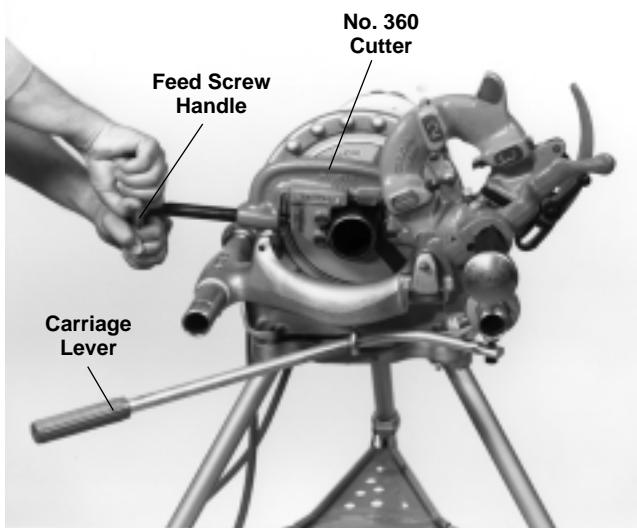

Figure 9 – Cutting Pipe with No. 360 Cutter
2. Move pipe cutter down onto pipe and move carriage with carriage lever to line up cutter wheel with mark on pipe (*Figure 9*).